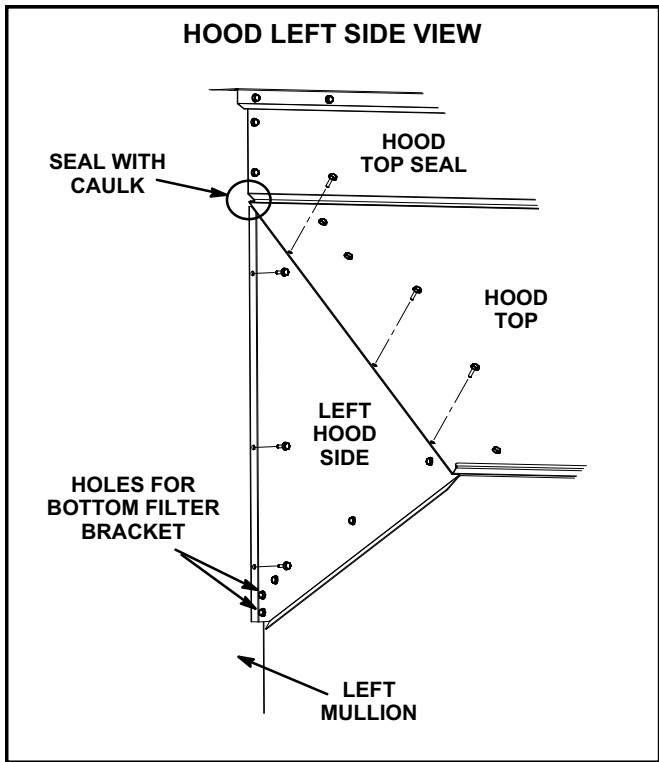

FIGURE 25
- 9- Secure left hood side to the hood top. See figure 25. Secure the left hood side to the unit using three screws removed in step 4. See figure 25.
- 20- Caulk (field-provided) both ends of the top seal and hood top as shown in figures 25 and 26.